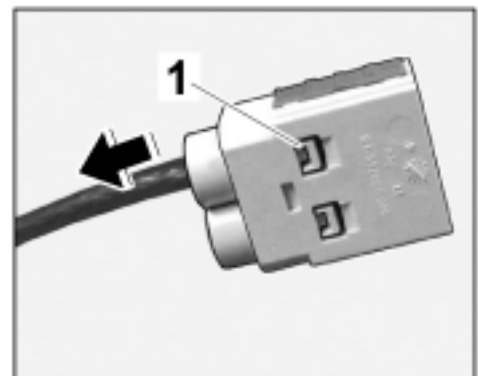

Figure 29
- 5.2.4 Lift up the locking mechanism ⇒ *Figure 29-1-* and carefully pull the antenna line out of chamber 1 ⇒ *Figure 29-arrow-*.